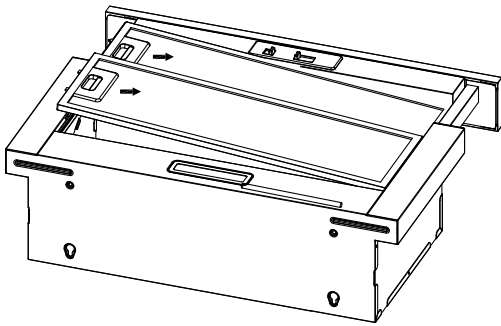

Fig 1
- Remove the grease filters (fig 1).